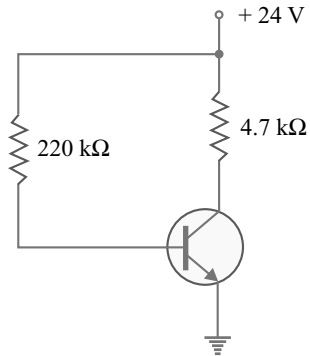

Fig. 6.78
11. In the transistor circuit shown in Fig. 6.78, find (i)  $V_{CE}$  when  $I_C = 1.5\text{ mA}$  (ii)  $I_C$  when  $V_{CE} = 12\text{ V}$  (iii)  $V_{CE}$  when  $I_C = 0$ . [(i)  $V_{CE} = 16.95\text{ V}$  (ii)  $I_C = 2.55\text{ mA}$  (iii)  $V_{CE} = 24\text{ V}$ ]